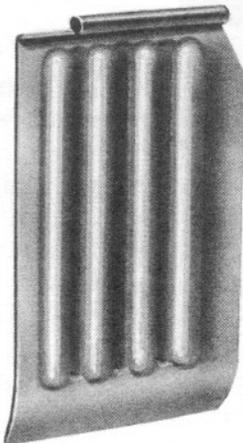

Fig. 11 – Coin Shield
1. Place pin through tubular bearing at top of shield so that curved-in portion on bottom of shield is toward hopper when loop of pin is to the front. (See Fig. 11.)